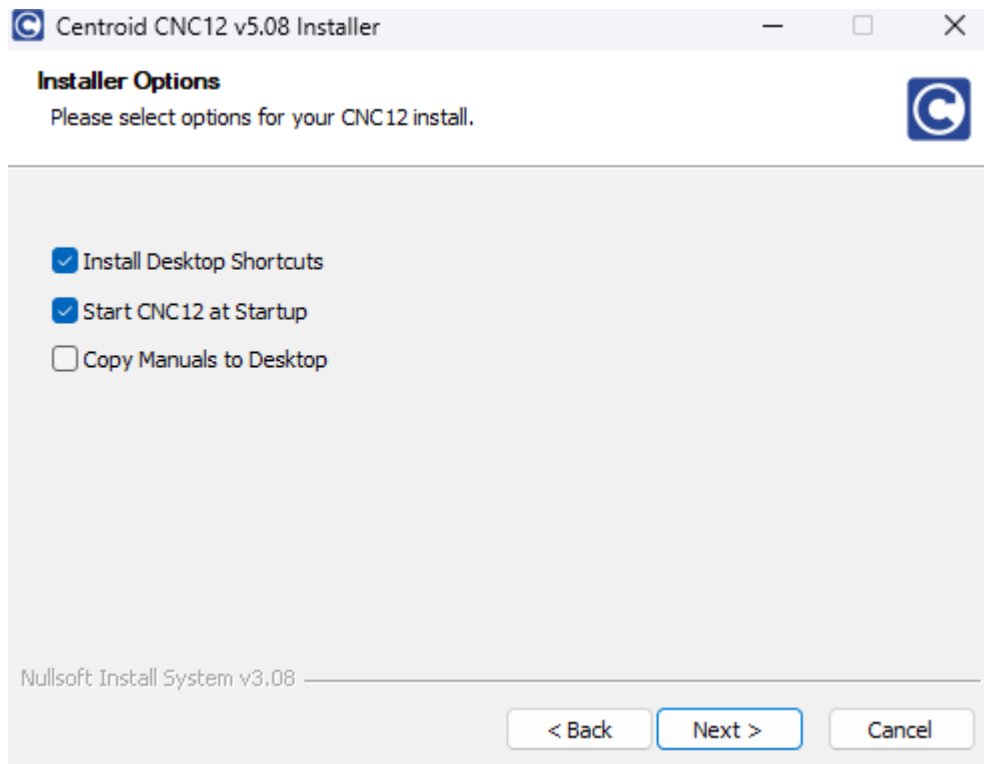

Figure 3.2.3
7. **Installer Options.** Select the option to Install Desktop Shortcuts shown in Figure 3.2.3. If desired, also select the option to start CNC12 at Startup. Click "Next" to continue.